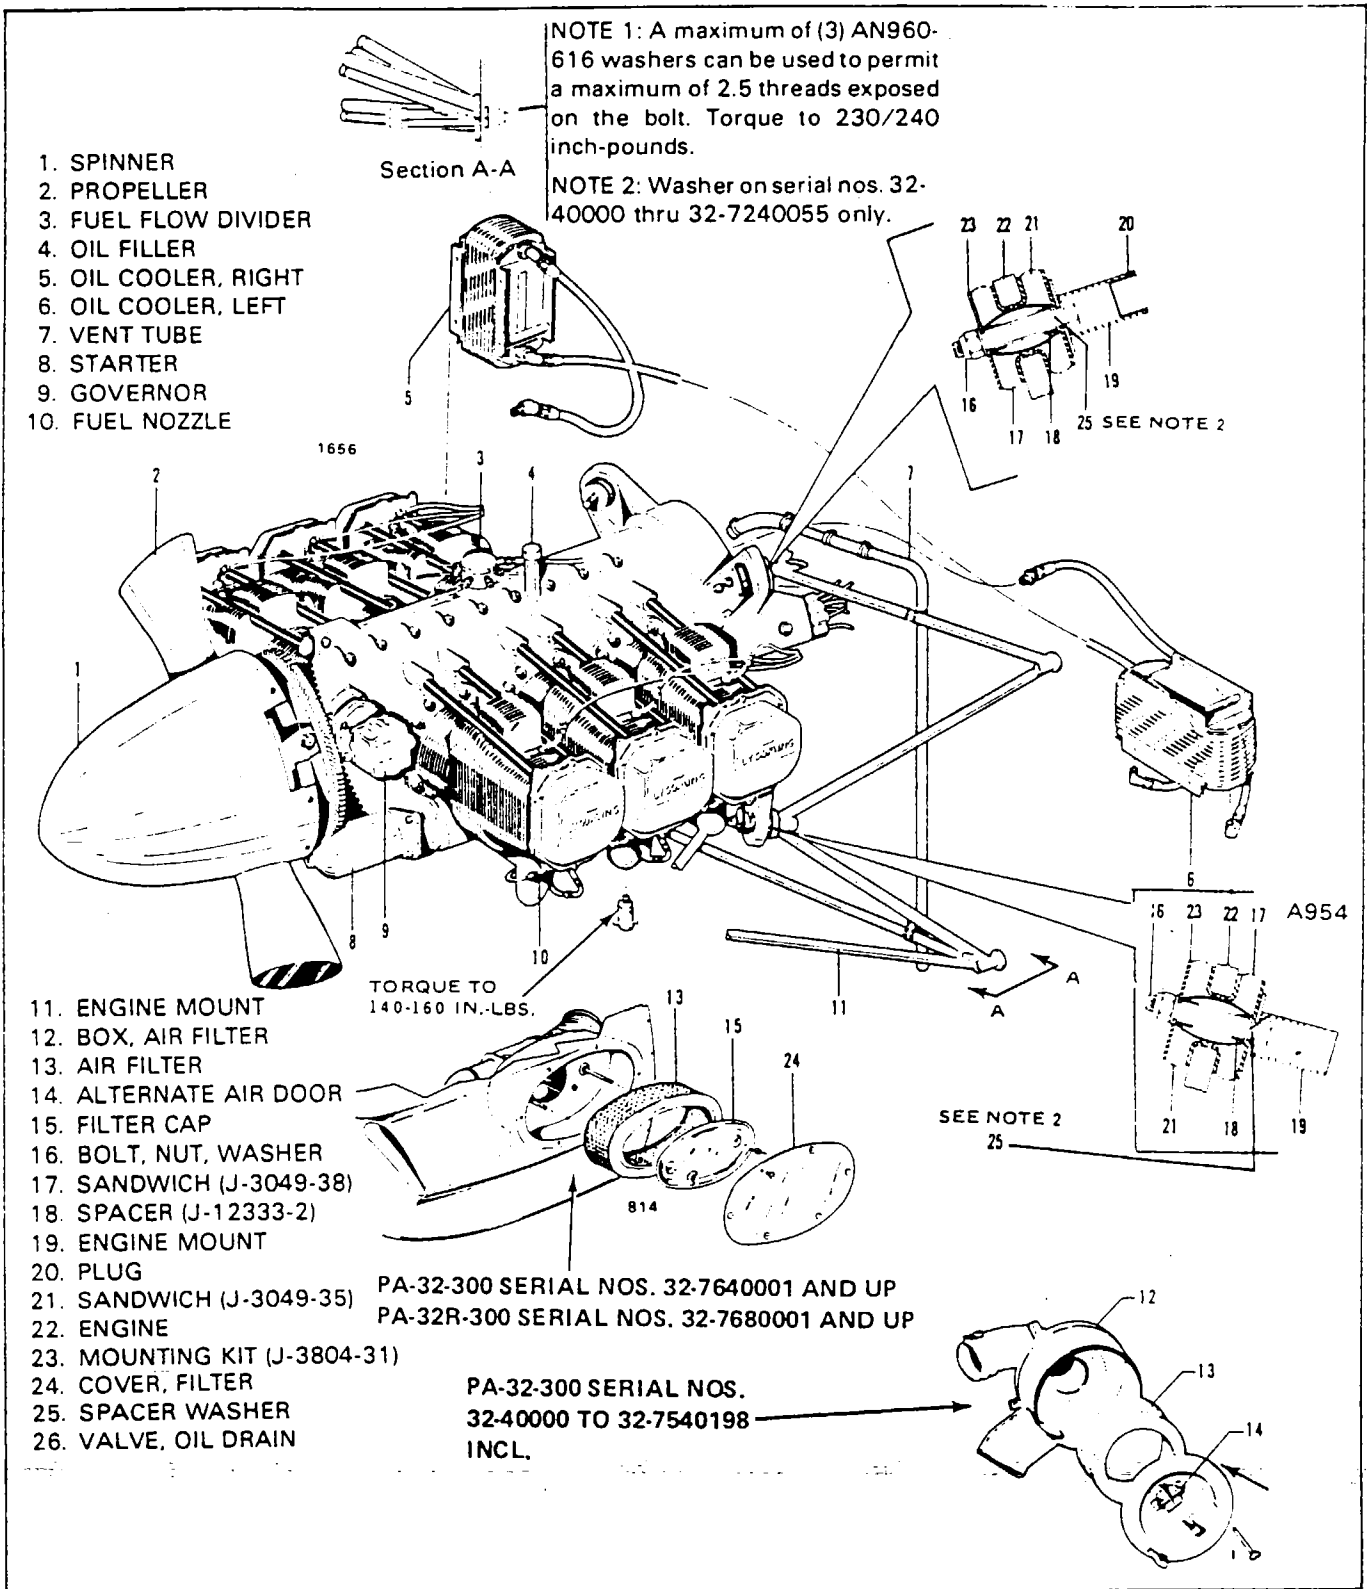

Figure 7A-4. Engine Installation
7A-14. INSTALLATION OF ENGINE. (Refer to Figure 7A-4.)
- b. Insert an engine mount bolt, with washer against head, in the engine mount and slide half of the mount assembly on the bolt. (Refer to Figure 7A-4 for proper shock mount assembly.) Repeat this procedure for the other three attachment points.
Shock mount Part No. J-3049-38 sandwich (17) must be positioned on the compression side of the engine lugs, with the upper mounts on the forward side, and the lower mounts on the aft side. The part number is stamped on the metal face of the mount. (Refer to Figure 7A-4.)